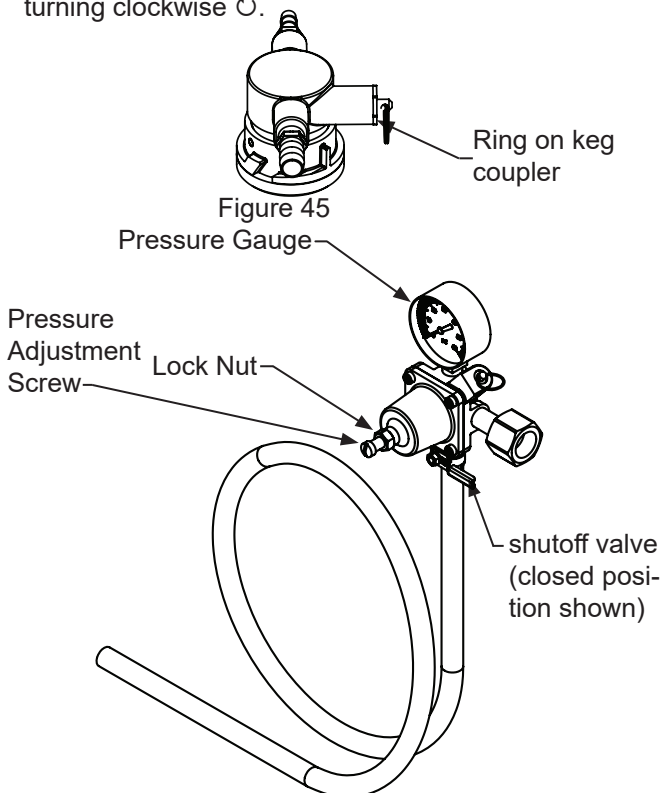
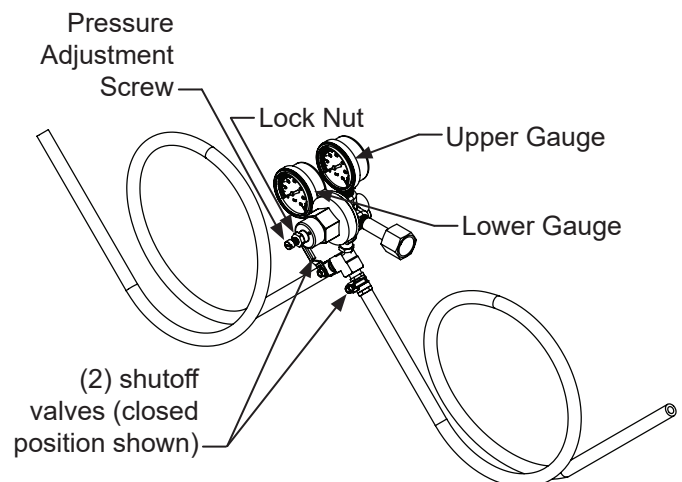

Figure 46 (Regulator for Single Dispense Tower)
Figure 47 (Regulator for Double Dispense Tower)
Remove the foam plug from the hole port as shown in Figure 46, and feed the red gas line through the rear wall and out the coil cover on the inside of the cabinet. Connect the red gas line to the keg coupler.
Reseal the hole in the back of the cabinet with the foam plug. See Figure 47.
2. Be sure the faucet handle is closed on the tower (see Figure 47).
Turn off the gas supply with the shutoff valve(s) under the regulator (see Figure 46 or Figure 47) and open the faucet to relieve the pressure. To remove the faucet from the tower use the spanner wrench provided. Place the pin on the wrench into the hole on the faucet collar and turn clockwise $\curvearrowright$ to remove the faucet. (See Figure 52).